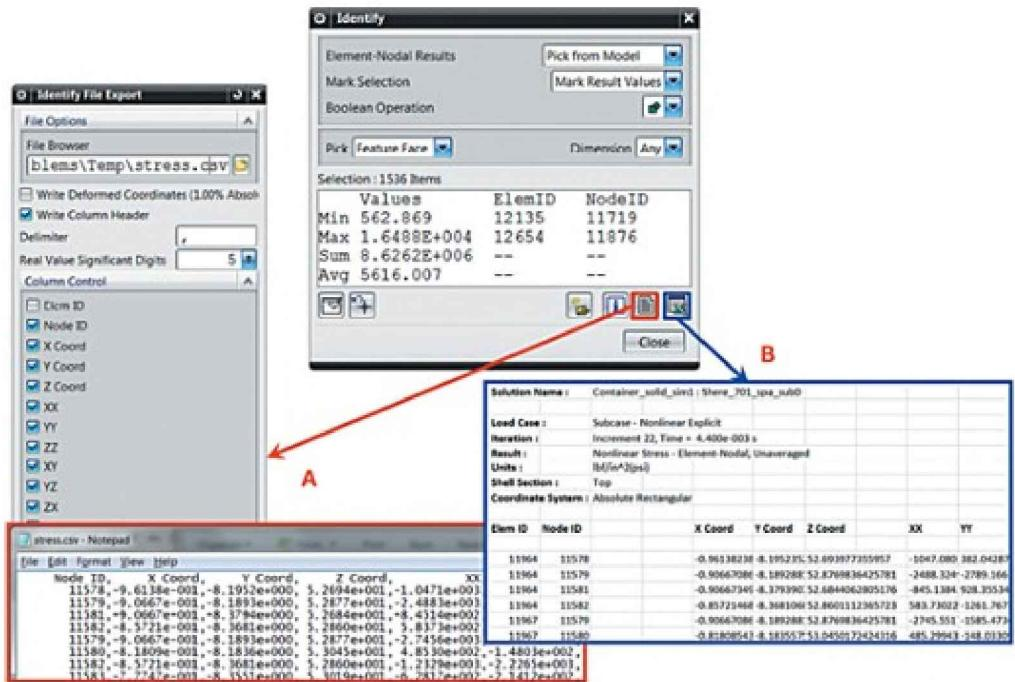

Figure 5.43. Exporting numerical data into the table
- Use the ***Export Selection to a File*** command to output the information to a text file with a user-specified delimiter. When you use this command, a new ***Identify File Export*** dialog box opens. In this dialog box, you can specify the types of data to export, the ***Delimiter*** to use for the decimal part and the number of digits in the decimal part (Figure 5.43, A).
- Use the ***List Selection in Spreadsheet*** command to export all data into an Excel spreadsheet, which is then opened. Note that in addition to numerical values and numbers of nodes or elements, the information in the graphics area header is also written to the spreadsheet (Figure 5.43, B).